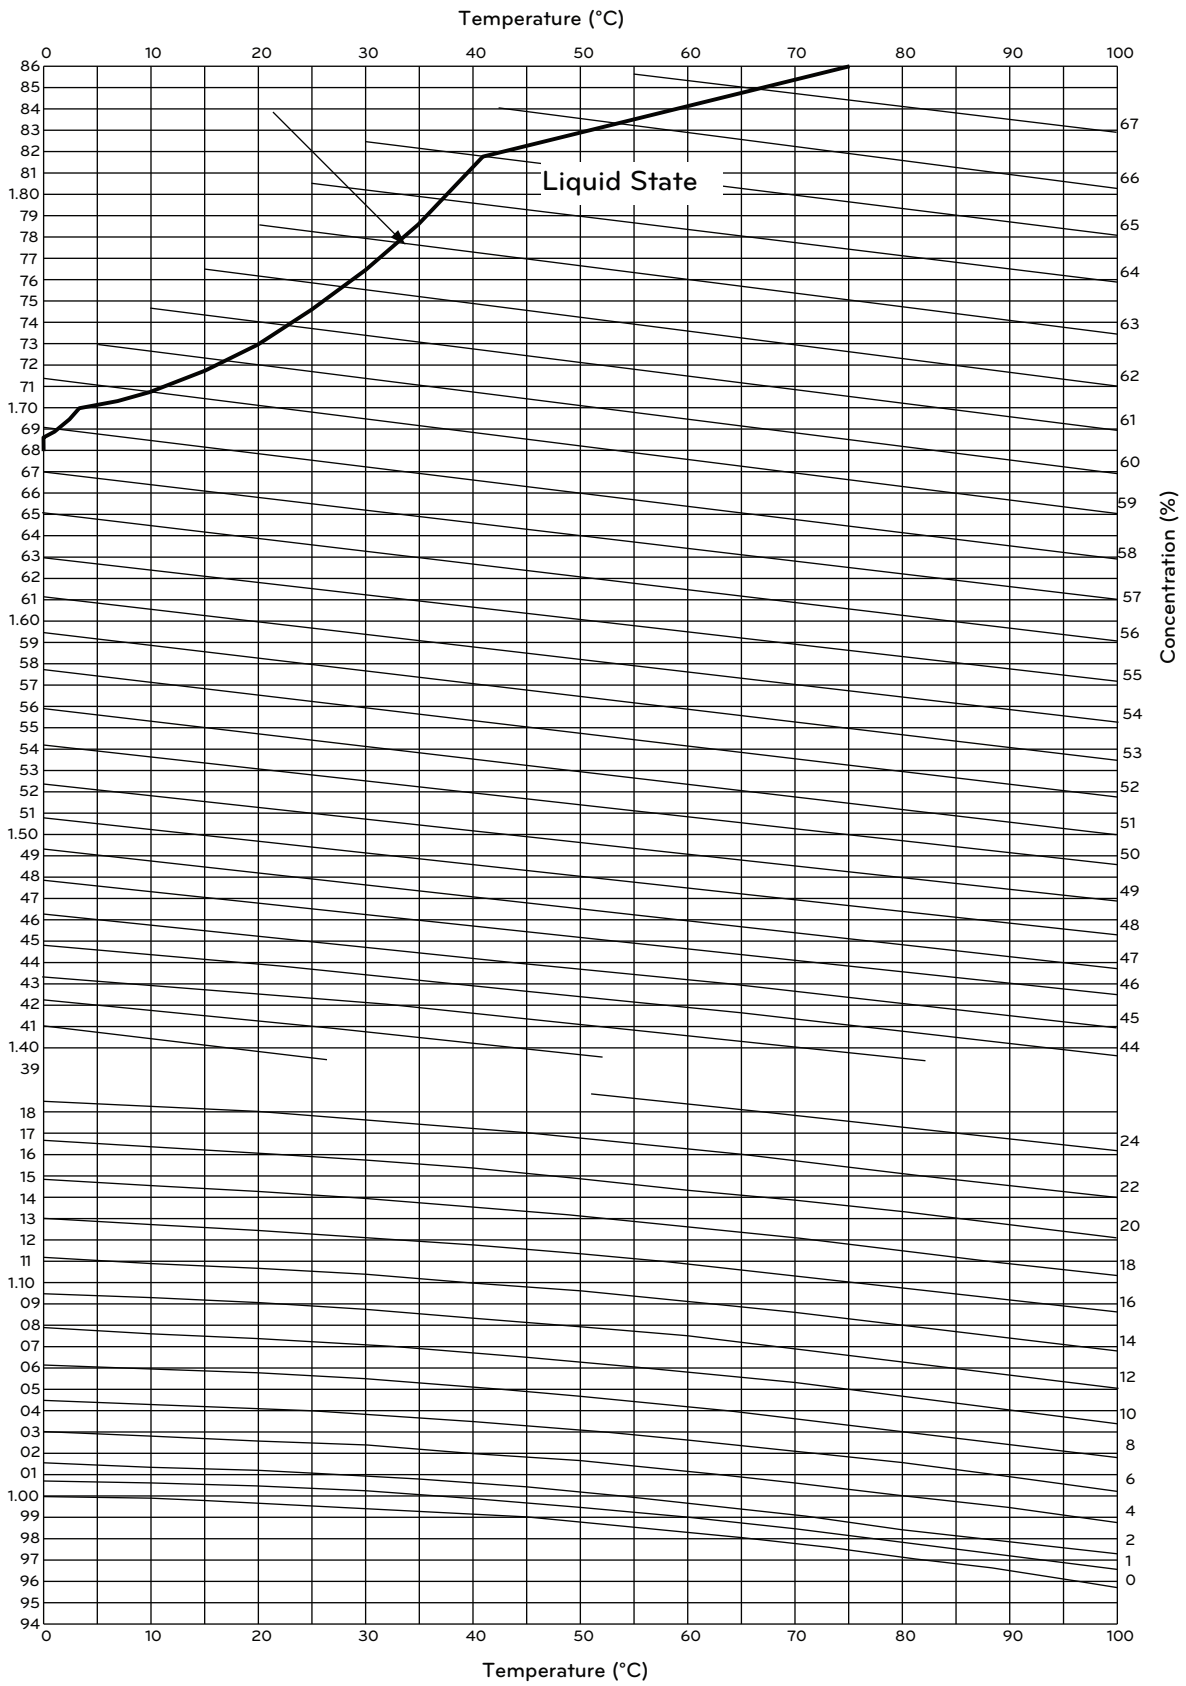

Figure 1-7. concentration curve of absorption solution
Specific weight of a solution of 'Lithium Bromide' (about 60% concentration) is much greater than that of water(1.0). (about 1.7 times) specific weight is determined by liquid concentration and its concentration can be found from the figure 1-7 duhring diagram, by measuring temperature and specific weight of absorption solution.
4. Concentration curve of a solution of Lithium bromide (refer to the figure1-7)